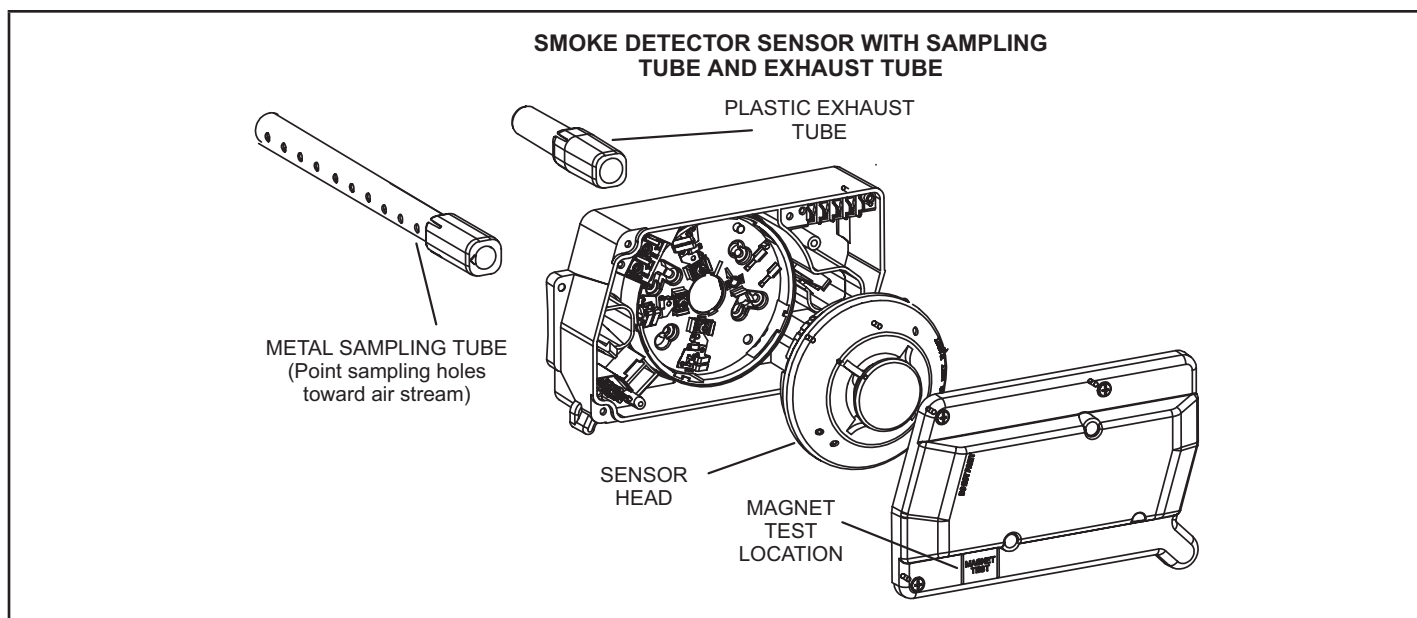

FIGURE 3
- 2 - Slide metal sampling tube onto the back side of the sensor. When sensor is installed in return air applications, slide plastic exhaust tube onto back side of sensor. See FIGURE 3.